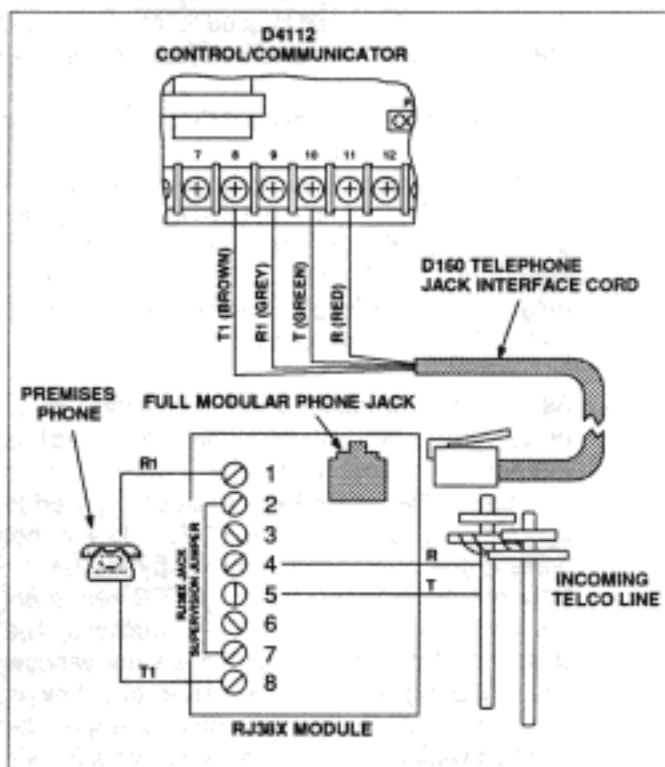

Figure 3: RJ38X WIRING
- 6.2 Location** - To prevent jamming of alarm and other signals, the RJ38X jack must be wired and located within the system so that normal phone use is temporarily interrupted while the communicator transmits data (see Figure 3). After installation, confirm that the communicator seizes the line, acquires dial tone, and reports correctly to the central station.
- 6.4 Telephone Cord Connection** - Connect one end of the D160 Telephone Jack Interface Cord to the D4112 as shown in Figure 3. Connect the other end of the Interface Cord to an RJ31X or RJ38X phone jack.